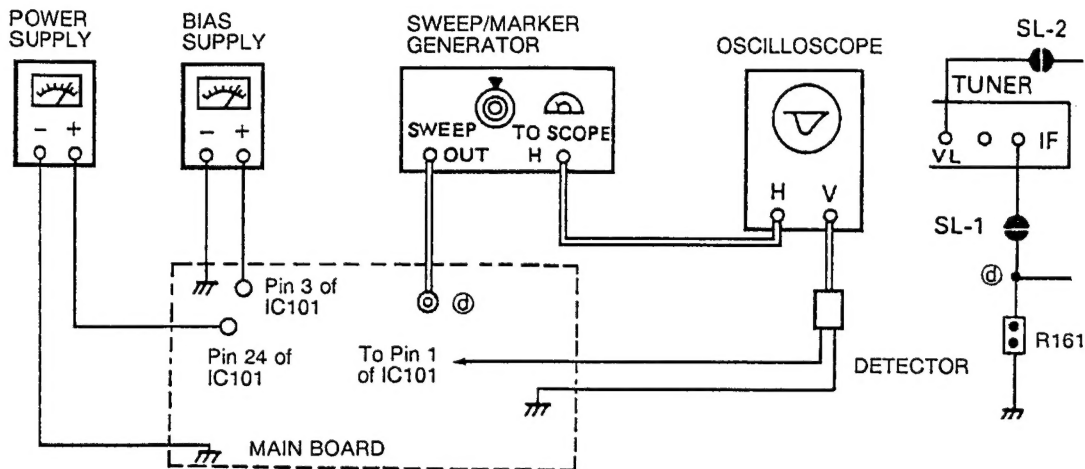

Figure 4. Picture IF Sweep Alignment
GENERAL..... Refer to figure 4 for test equipment connection.
SWEEP/MARKER GENERATOR..... Connect to the point ① as shown in figure 4 on the Main Board.